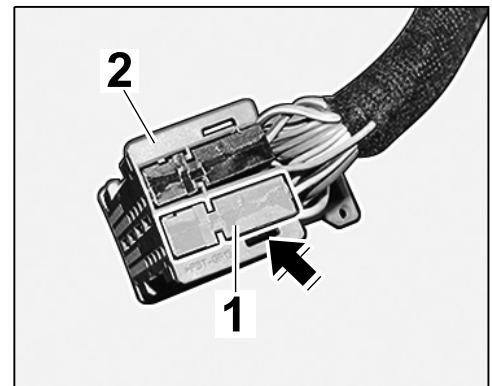

Figure 20
- 2.5.6 Push grey plug socket ⇒ *Figure 20-1-* into the plug carrier ⇒ *Figure 20-2-* until the locking mechanism ⇒ *Figure 20-arrow-* engages.